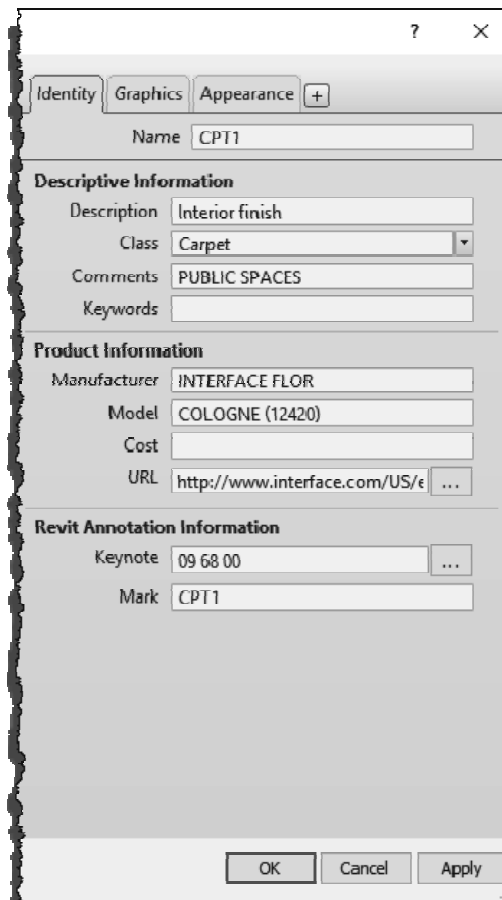

FIGURE 4-3.3 Editing CPT1 Identity data
7. Switch to the **Identity** tab for the new *Material – CPT1*; information shown will be entered in Step 13 (Figure 4-3.3).
13. In Revit, enter the information shown in Figure 4-3.3.